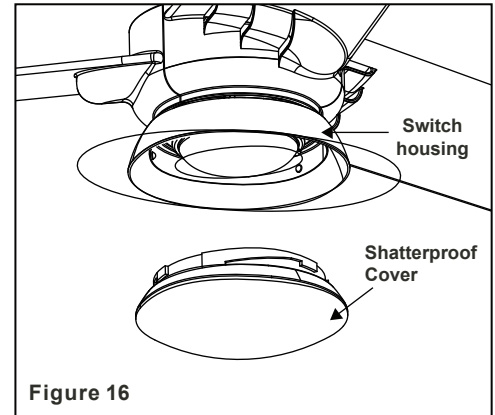

Figure 16
**Step 3.** Secure the Shatterproof Cover to the switch housing by twisting in a clockwise direction. Do not over-tighten(Fig.16).